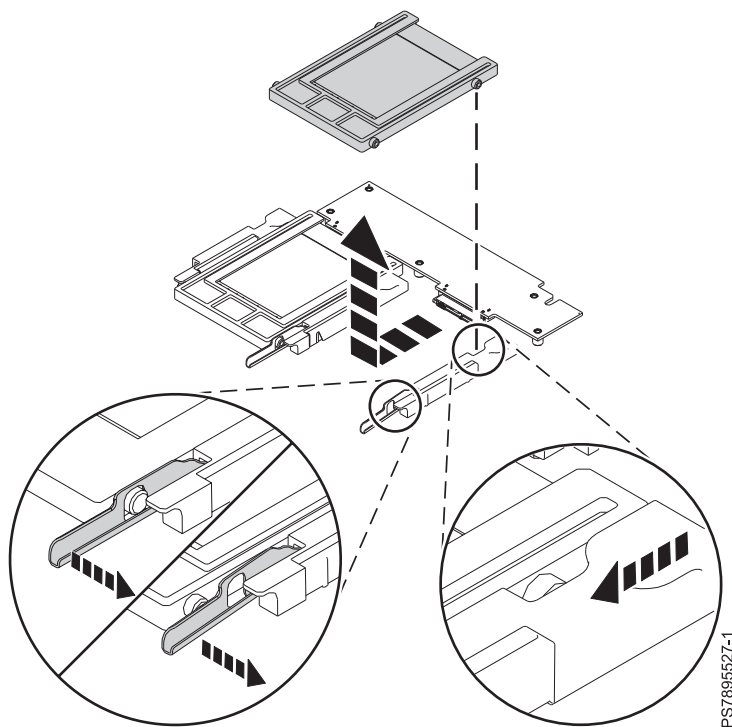

Figure 10. Removing an SSD carrier
- a. Pull and hold the blue release lever at the front of the drive tray, as indicated in Figure 10.